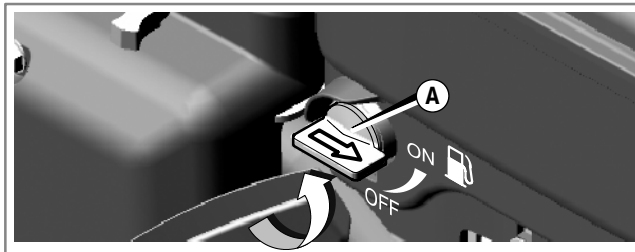

Figure 5: Fuel Shut-off Valve
2. Turn the fuel shut-off valve (A), if equipped, to the ON position (Figure 5).